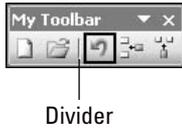

Figure 23-26: Place a divider on a toolbar to make logical groupings of tools that perform certain types of functions.
7. Select the Begin a Group command from this menu to insert a divider in your toolbar, as shown in Figure 23-26.